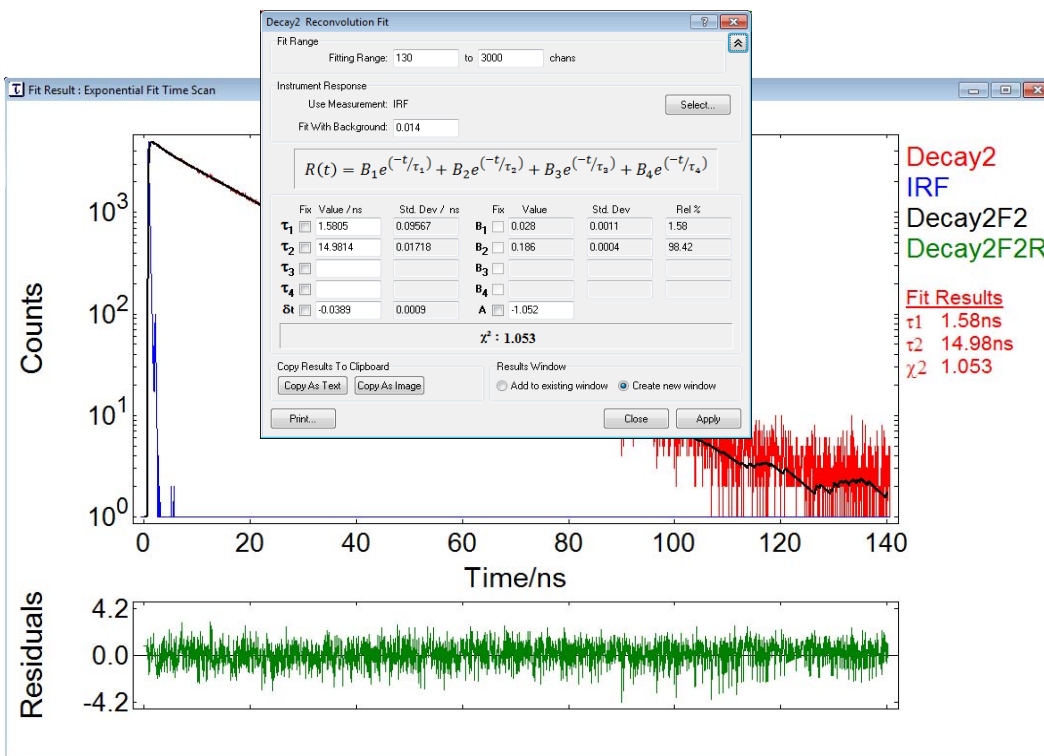

Figure 7-9b: Double exponential reconvolution fit of example decay "A"
- Figure 7-9b and Figure 7-10c show satisfactory fits for the decays “A” and “B”.